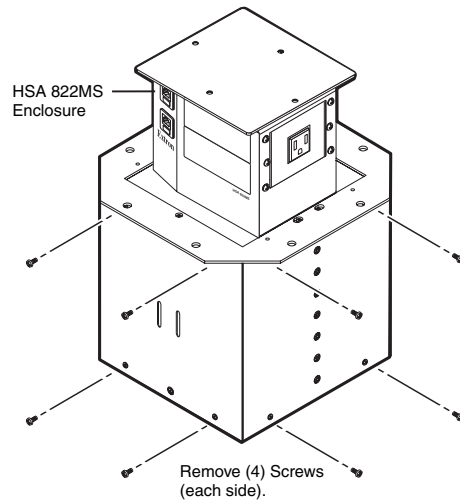

Figure 2-4 — Removing the shroud
3. Remove and retain the four screws in the corners of each side's surface of the enclosure shroud "cube" (figure 2-4). Remove the two halves of the shroud and set them aside.